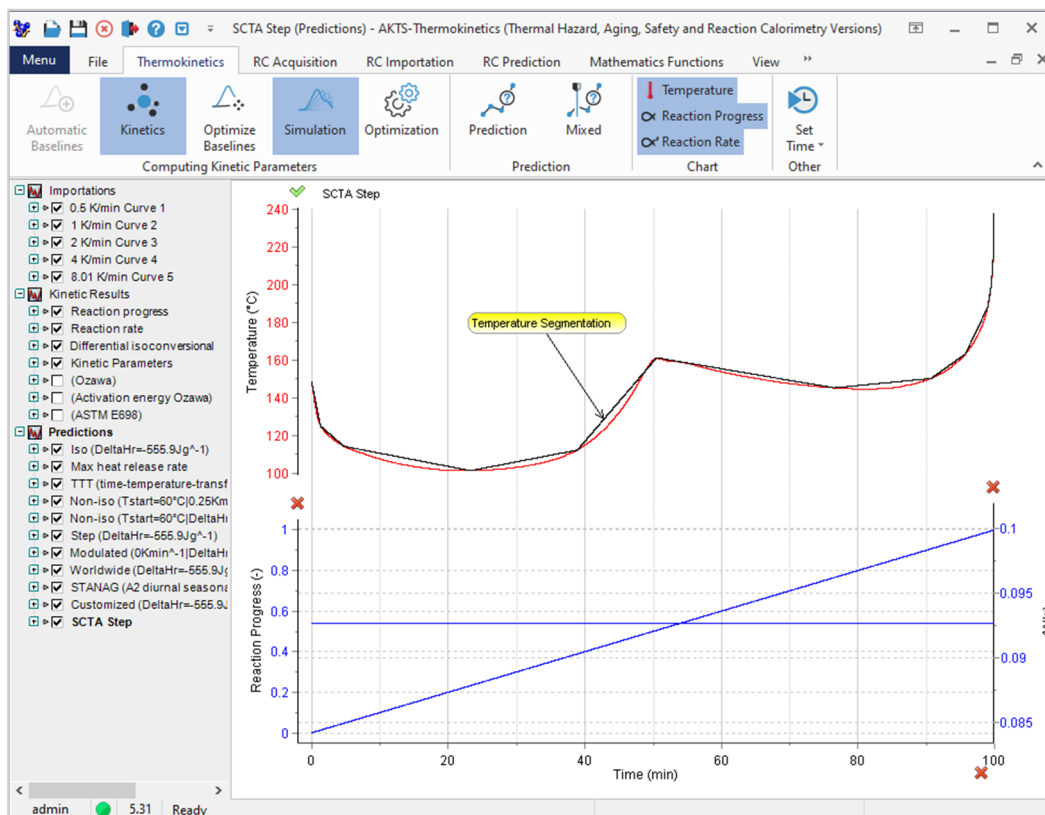

**FIG. 2** - Prediction of the reaction rate (middle-) and reaction progress (bottom curve) during temperature variations recorded by the temperature tracker (top).
**FIG. 2** - Reaction rate (middle) and reaction progress (bottom, normalized signals) as a function of time under isothermal (blue curves, 30°C) and modulated temperature conditions (red curves, 30°C with amplitude of ±20°C and frequency 24 h).
**FIG. 2** - Top: Average daily minimal and maximal temperatures recorded between 1961 and 1990 in Zurich (blue) and Miami, USA, (red); Reaction rate (middle section) and reaction progresses (normalized signals) as a function of time for the Zurich and Miami temperature profiles.
**FIG. 2** - Top: Average daily temperature fluctuations in STANAG A2 zone. Reaction rate (middle section) and reaction progress (normalized signals) as a function of time.
**FIG. 2** - Prediction of rate-controlled reaction course in Sample Controlled Thermal Analysis mode: the dependences temperature vs time (top), reaction rate and reaction extent vs time (bottom).